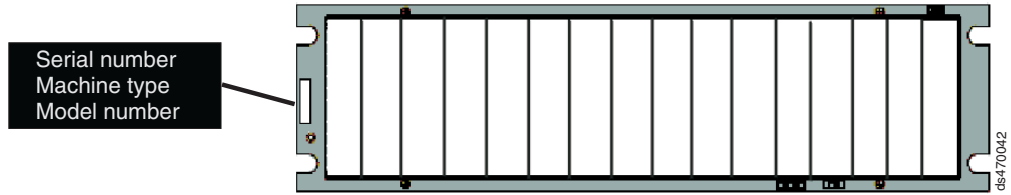

Figure 10. Example of EXP420 serial number, machine type, and model number location
4. Record the serial number, machine type, and model number for your EXP420. The serial number, machine type, and model number are located on the left edge of the front unit as shown in Figure 10 on page 20.